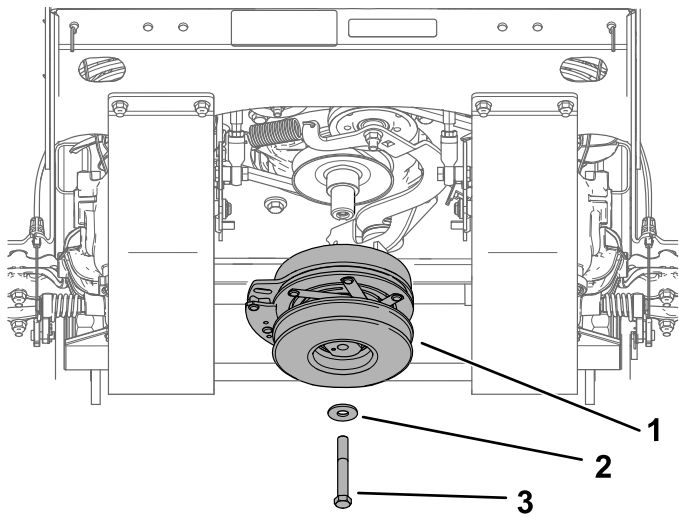

Figure 57
4. Remove the clutch pulley (Figure 57).
12. Install the clutch pulley (Figure 57). Torque the bolt to 68 to 81 N·m (50 to 60 ft-lb).